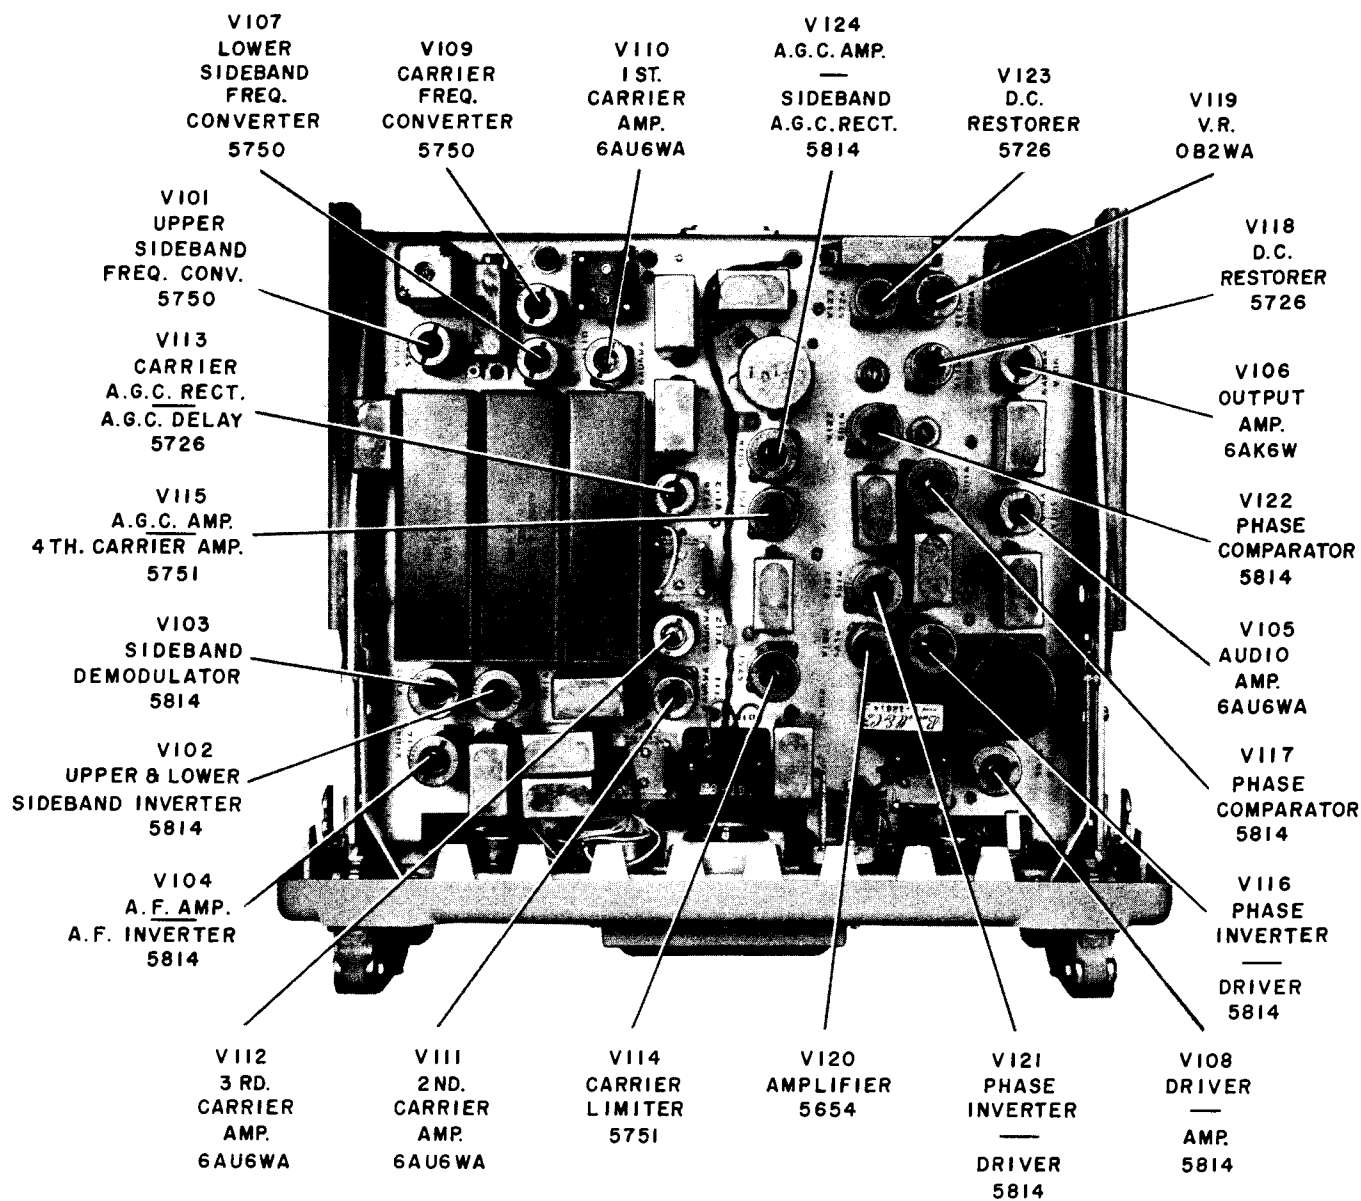

Figure 5-4. Tube Locations, Upper Chassis
b. REPLACEMENT OF ELECTRON TUBES.—The location and identification of all electron tubes are shown in Figures 5-4 and 5-5. Access to tubes in either chassis may be gained by sliding the chassis assembly out of the cabinet.
(1) LOCATING DEFECTIVE TUBES.—If the equipment fails and the glow lamp remains lighted, a defective tube may be the cause of the trouble. To locate the tube, the operator should pull out each chassis assembly and inspect all tubes. A cold tube or a tube which is not glowing is defective and must be replaced with a pre-tested tube of the same type. If it is impossible to determine by inspection which tube is defective, a tube tester should be used.
b. ELECTRON TUBE INFORMATION.—The full complement of electron tubes used in the CV-216/URR is given in Table 1-4. The relative locations of the tubes and tube socket voltages and resistances measured between each tube pin and ground are shown in Figures 7-2 and 7-3. See Figures 5-4 and 5-5 for photographs showing the exact location of each tube. The tube operating voltages and currents are given in Table 7-2 and the rated tube characteristics are listed in Table 7-3. Access to all tubes may be readily had by withdrawing the chassis assembly as far as each mechanical stop permits. Tubes should be checked in a tube tester such as Navy model OZ series or equivalent or by replacing the tubes with ones of known quality.